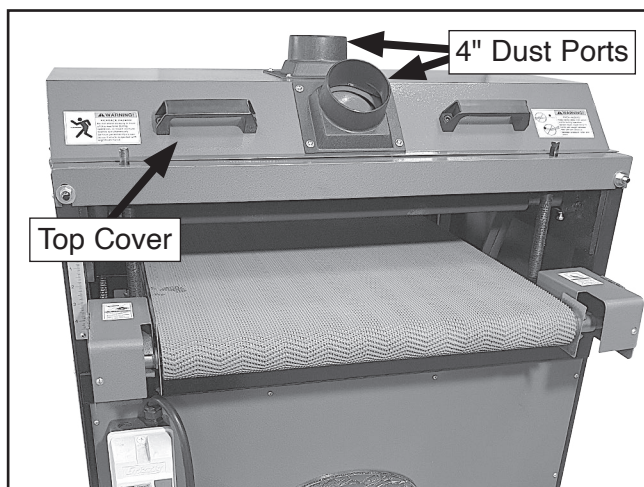

Figure 14. Dust ports attached to top cover (G1066R shown).
2. Attach (2) 4" dust ports to top cover with (8) #8 x $\frac{1}{2}$ " tap screws and #10 flat washers, as shown in **Figure 14**.